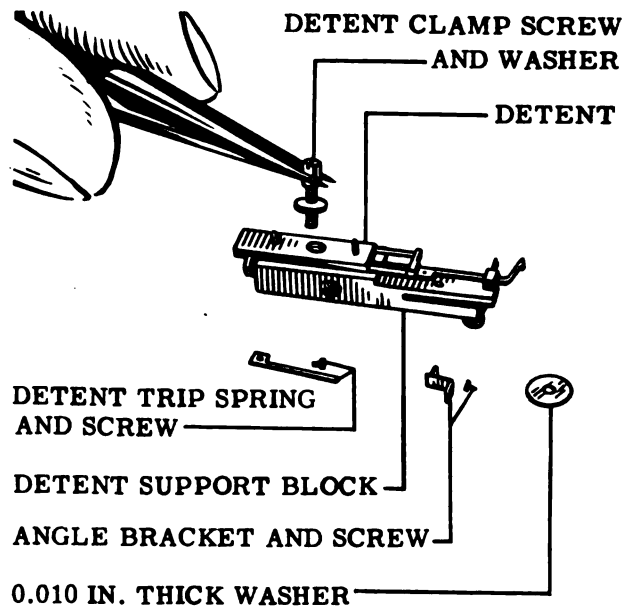

Figure 55
5. Remove detent clamp screw and washer. See Fig. 55.
5. Replace detent clamp screw and washer. See Fig. 55.